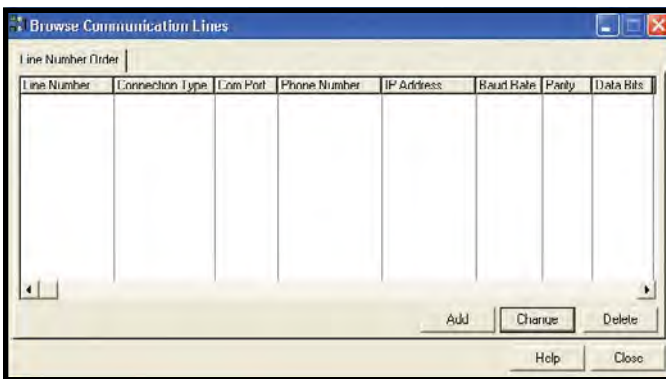

Figure 105. Out-of-the-Box™, Browse Communication Lines window
- II. Click the “Add” button in the “Browse Communication Lines” window (see Figure 105).